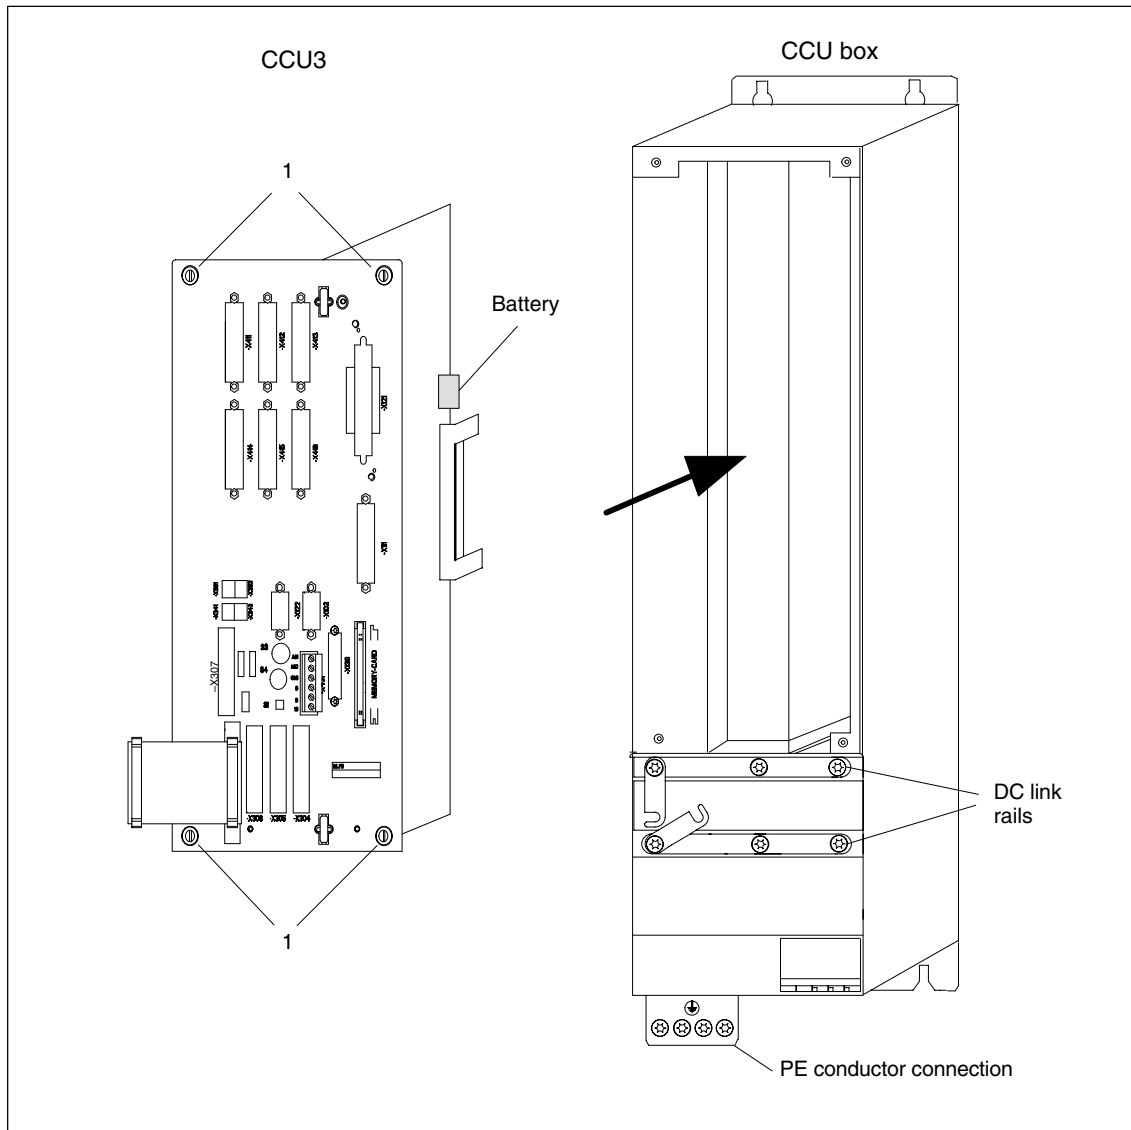

Fig. 3-3 Assembly of the SINUMERIK 810D
To be able to ensure compliance with the EMC conditions and resistance to vibrations, it is necessary to tighten the slot-head screws (1) (see figure 3-3).